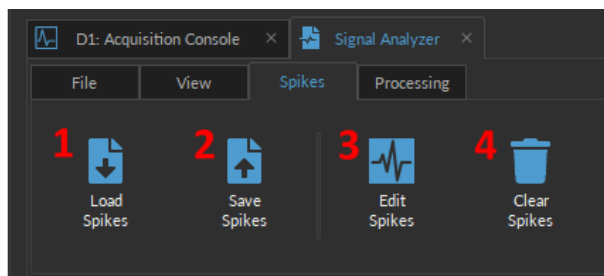

Figure 10.10: Spikes Tab
The **Spikes** tab (Fig. 10.10) is used to save, load, and edit data files containing process data within the module.
1. The **Load Spikes** button (Fig. 10.10, 1) will open a file selector window where the user can pick which *_Spikes#.doric* data set to import into the module.
2. The **Save Spikes** button (Fig. 10.10, 2) will automatically output a new file containing the processed data in the same folder as the raw data. This new file will share the name of the raw data file, plus a *_Spikes* between the old name and the *.doric*. If a spike file of that name already exists, an additional Spikes file is generated as *_Spikes#.doric*, instead of overriding the data.
3. The **Edit Spikes** button (Fig. 10.10, 3) allows users to update the spikes information in the current *_Spikes.doric* file without generating a new Spikes file. Instead, the new and old processed data are combined into a folder of the same name.
4. The **Clear Spikes** button (Fig. 10.10, 4) will erase the Spike file currently loaded in the module.